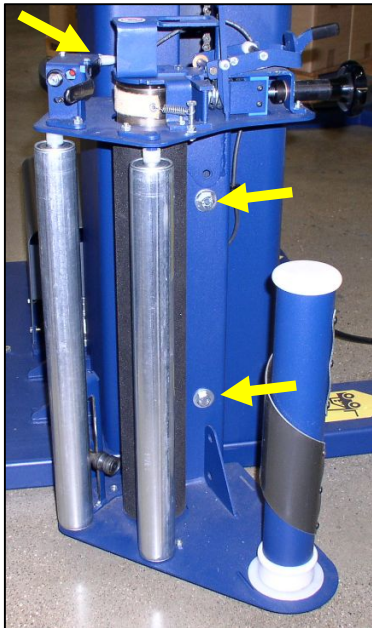

Figure 7.47
3. Use a 17 mm socket to remove the FDS (Figure 7.47).